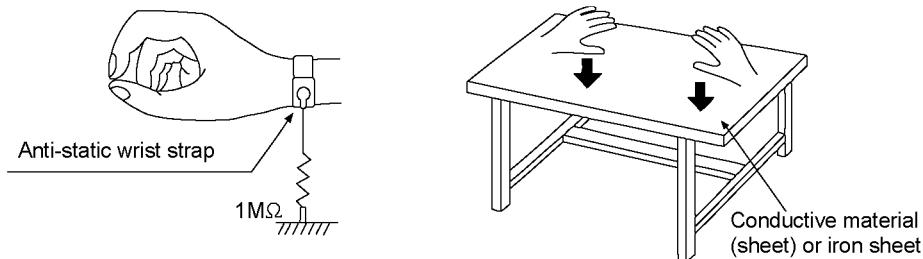

Figure 2-1
- Use the anti-static wrist strap to discharge the static electricity from your body Figure 2-1.